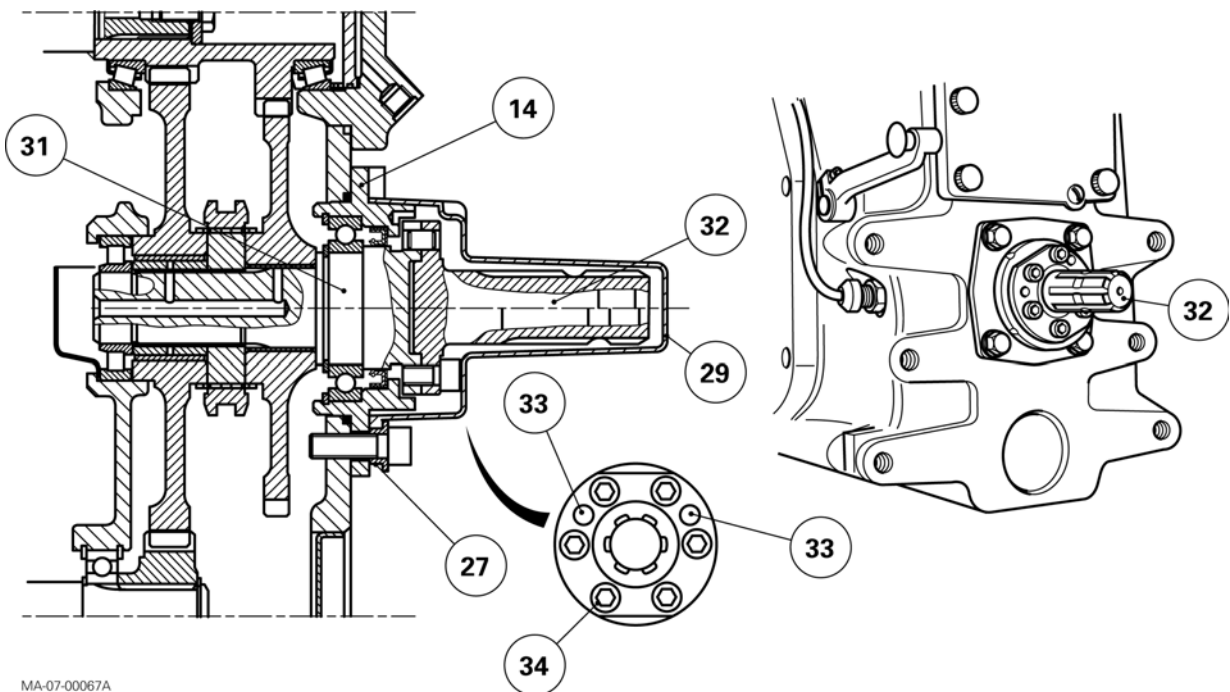

Fig. 12
- The flange shaft (31) makes it possible to interchange the end-fitting (32) (6 or 21 splines).
- This end-fitting is integral with the shaft (31) via pins (33) and screws (34).
- either by a bayonet cap (29) held in place by special spacers (27),
- or by a twist cap (30) (Fig. 12).